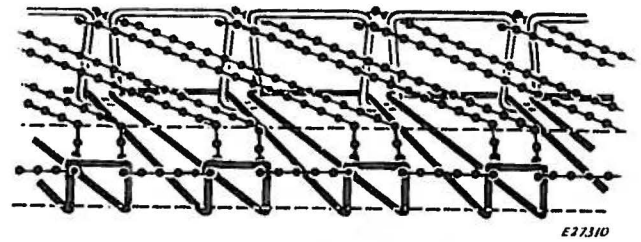

Fig. 4. Stitch Formation (Stitch Type #504)
- ... three-thread tight needle thread stitch (Stitch Type #504 shown in Fig. 4). See pages 10 and 11 for instructions on threading.